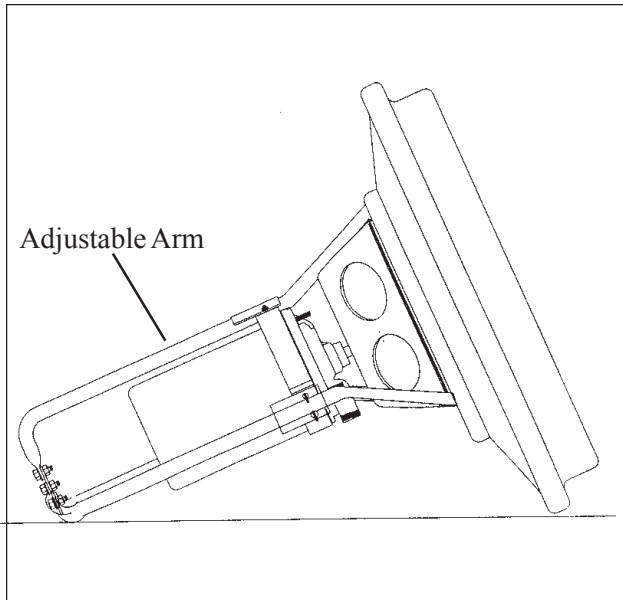
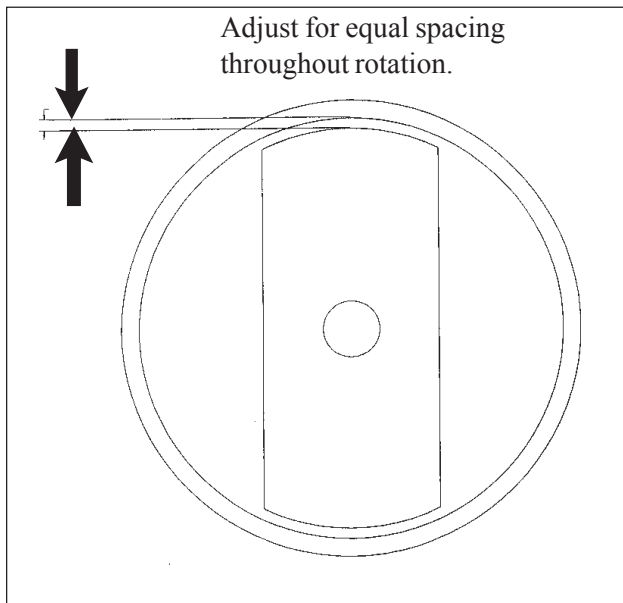

Figure 9
Figure 10
C. Aligning impeller in throat assembly - see Figure 9&10
1. Turn the unit on it's side so that the adjustable arm is up. See Figure 9. Place the impeller on the shaft and rotate the impeller one complete turn. Verify equal distance between the end of the impeller and the inner wall of the throat throughout rotation. See Figure 10.